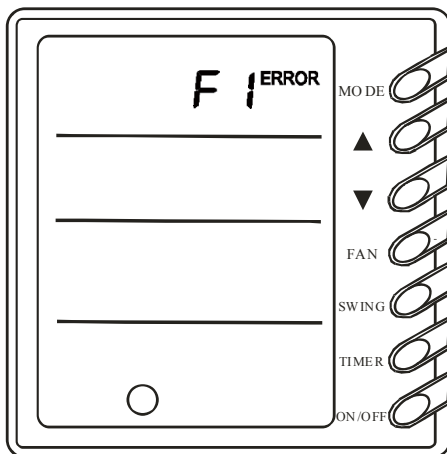

Fig.6
4.3.9 Malfunction display (Fig.6)